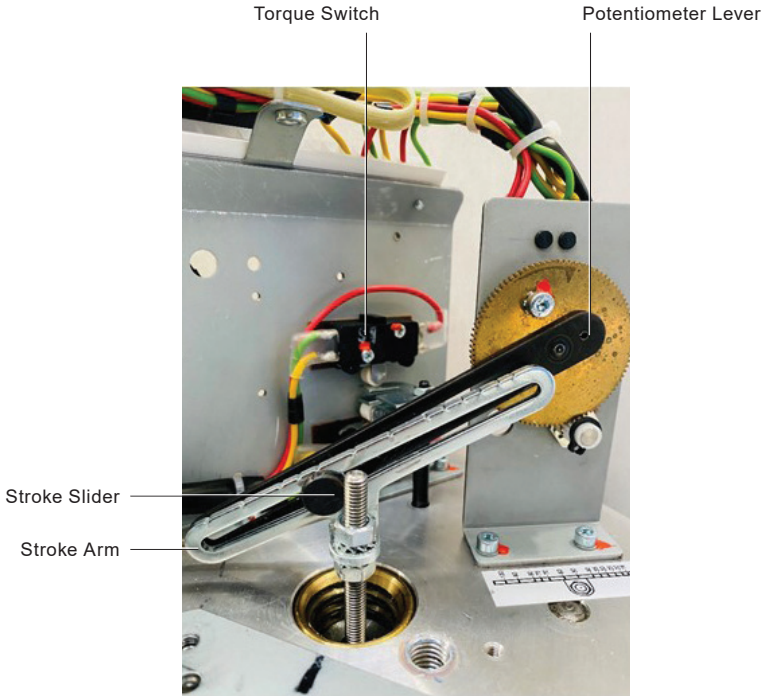

Fig. 28 8 kN+ AEL7 Stroke Arm Arrangement
- The Stroke Arm and Potentiometer Lever should be parallel (Fig. 28)